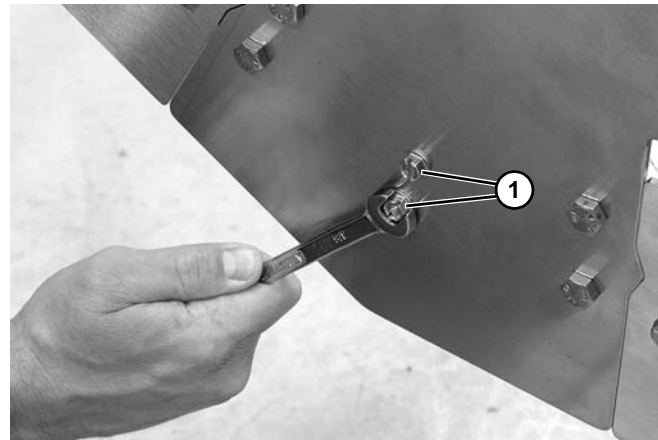
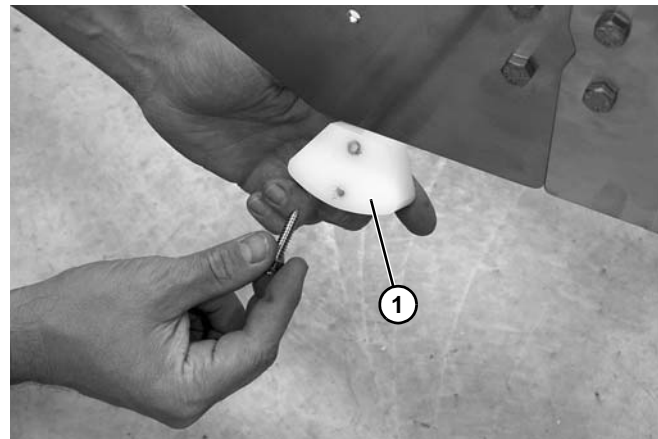

**Figure 72**
**Figure 73**
3. Remove bolt and washer (**Figure 72, item 1**). Remove stub shaft (**Figure 73, item 1**), hold down roller (**Figure 73, item 2**), and spacer (**Figure 73, item 3**). Repeat on the opposite side of the conveyor.